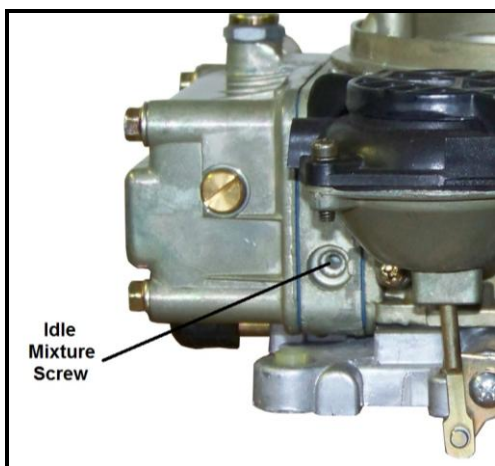

Figure 9
2. Adjust each idle mixture screw (Figures 9 & 10) 1/8 turn at a time, alternating between each screw. Turn them equally, until you achieve the highest possible vacuum reading or smoothest idle without adjusting the curb idle speed screw. Turn screws in to lean the mixture. Turn them out to richen the mixture.